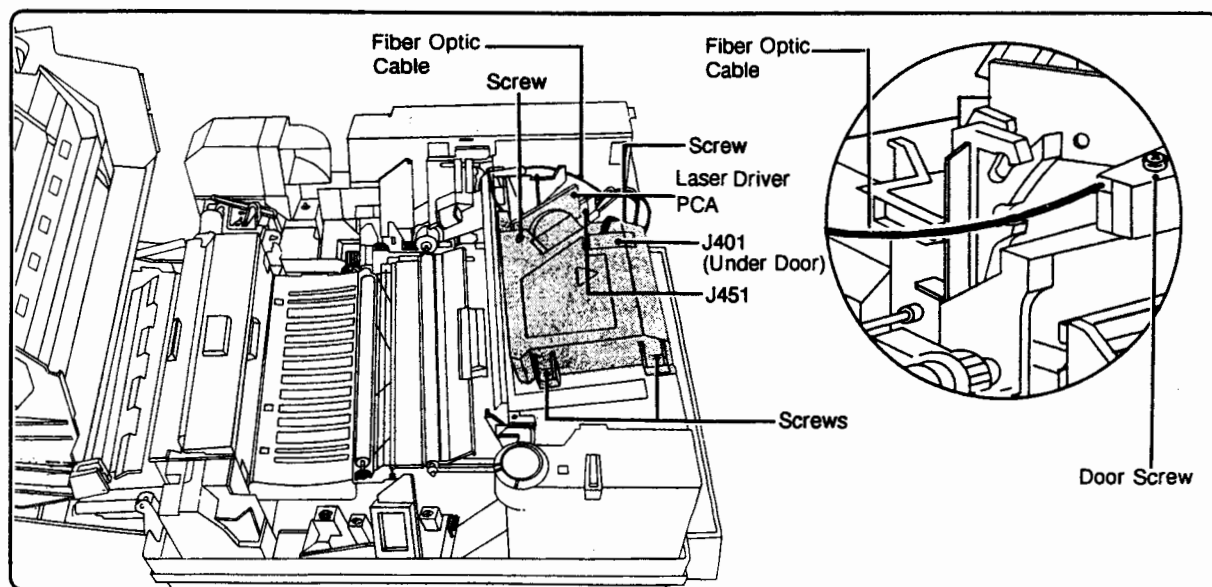

Figure 6-22. Laser/Scanning Assembly
The Laser/Scanning Assembly (Figure 6-22) is extremely fragile and should be handled carefully. Be particularly careful when handling the Fiber Optic Cable.
2. To *disconnect* the Fiber Optic Cable from the Laser/Scanning Assembly, remove screw (1) securing the small door (see Figure 6-22), open the door, and slip the cable out of the retainer.